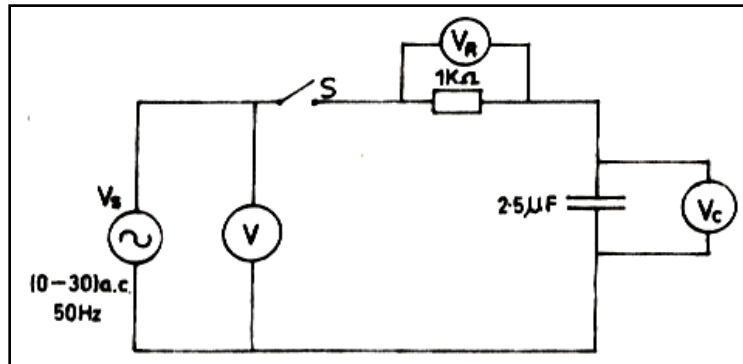

Figure 1
- (a) Connect the circuit as shown in Figure 1.